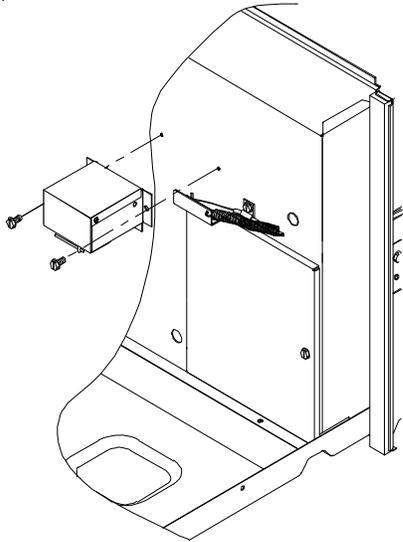

Figure 7
- Mount the door motor housing with two #8 screws to the provided holes in the partition panel. Ensure the cross pin in the door shaft is rotated around so that it touches the rubber bumper underneath the door motor housing (Figure 7).